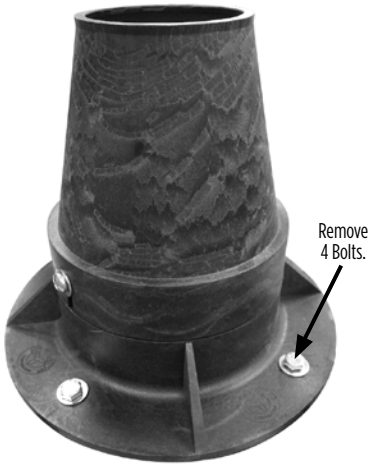

Figure 4
- b) Remove the four indicated bolts that secure the nozzle plate to the motor mount. Clean and store those components (Figure 4).
**Step 5** Inspect, clean, and remove any build-up in the **Aeration Pump Head** (Figures 4 and 5).